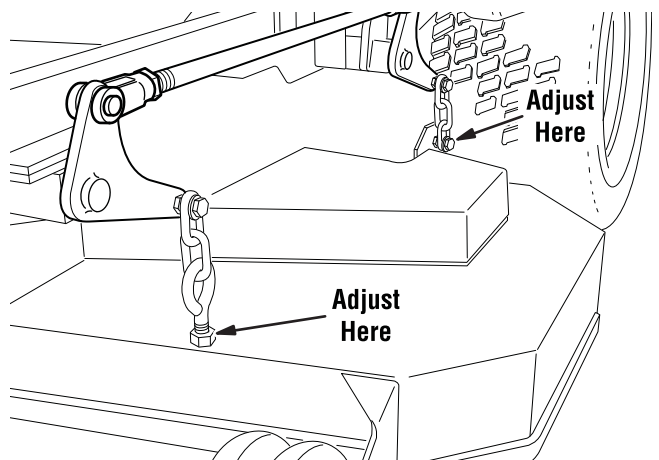

Figure 39. Hanger Chain Adjustment
4. Adjust the front eyebolts until the chains are tight and the deck is still resting on the 2 x 4 blocks. Tighten the jam nuts. See Figure 39.
5. Loosen the nuts and allow the rear of the deck to rest on the 2 x 4's and 1/4" spacers. Slide the chains down in the slots until the chains are tight and tighten the nuts. See Figure 39.